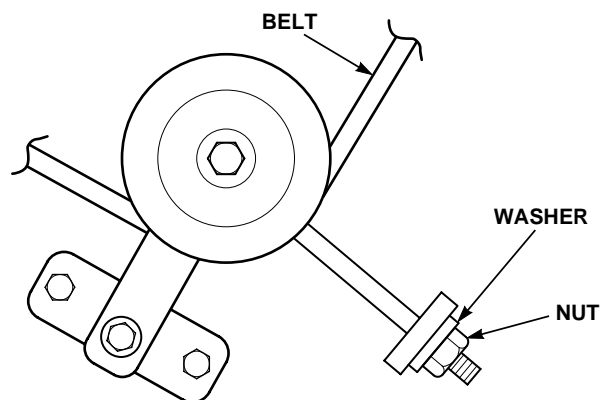

Figure 2. RH Blade Belt Adjustment
- Adjust the RH blade drive belt using a belt tension gauge. Adjust the belt so that the belt moves 1/2" with 10 pounds of pressure. Adjust the tension by tightening or loosening the J-bolt nut. (See Figure 2 & 3)